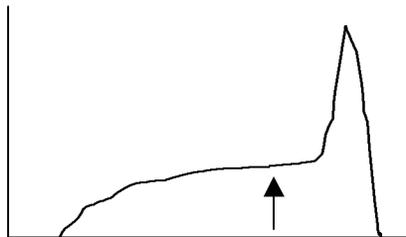

Figure 1: Detuning curve showing nominal setpoint for optical cavity length.
- d) Set laser cavity length 1/3 of the way back from the peak of the detuning curve (Figure 1)